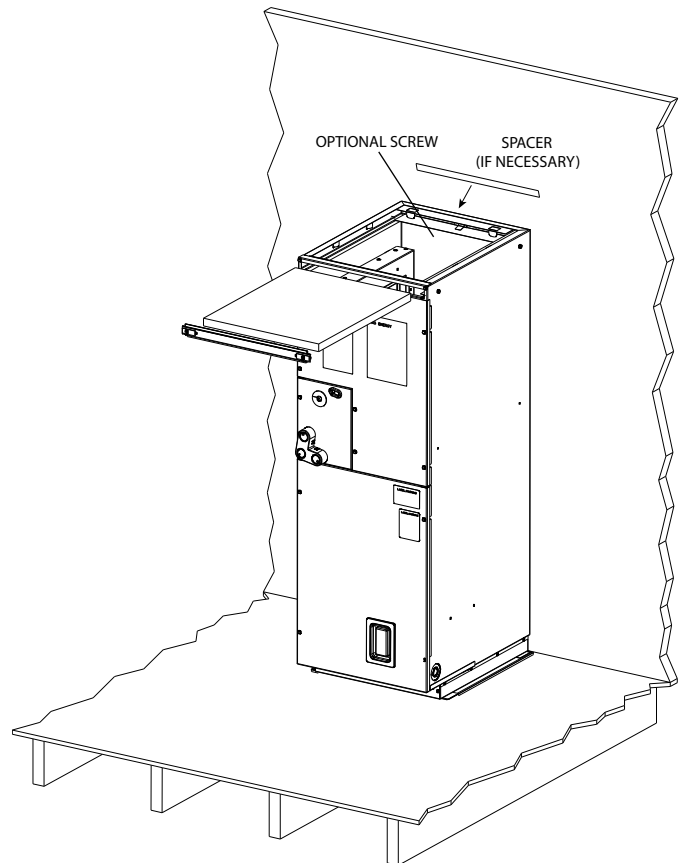

Fig. 10 – Finished Installation with Filter
3. If desired, place an optional screw from inside the upper back panel into a stud or backer to add stability. Use a self-tapping screw or drill a pilot hole through the casing and into a stud (Fig. 10).